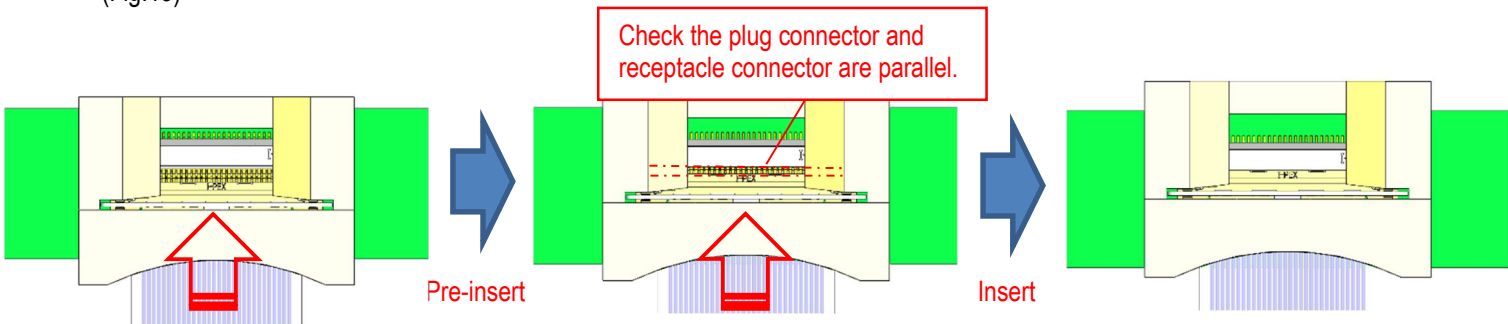

Fig.13
- ③ Pre-insert mating jig horizontally, check the plug connector and receptacle connector are parallel, and then insert the plug connector. (Fig.13)